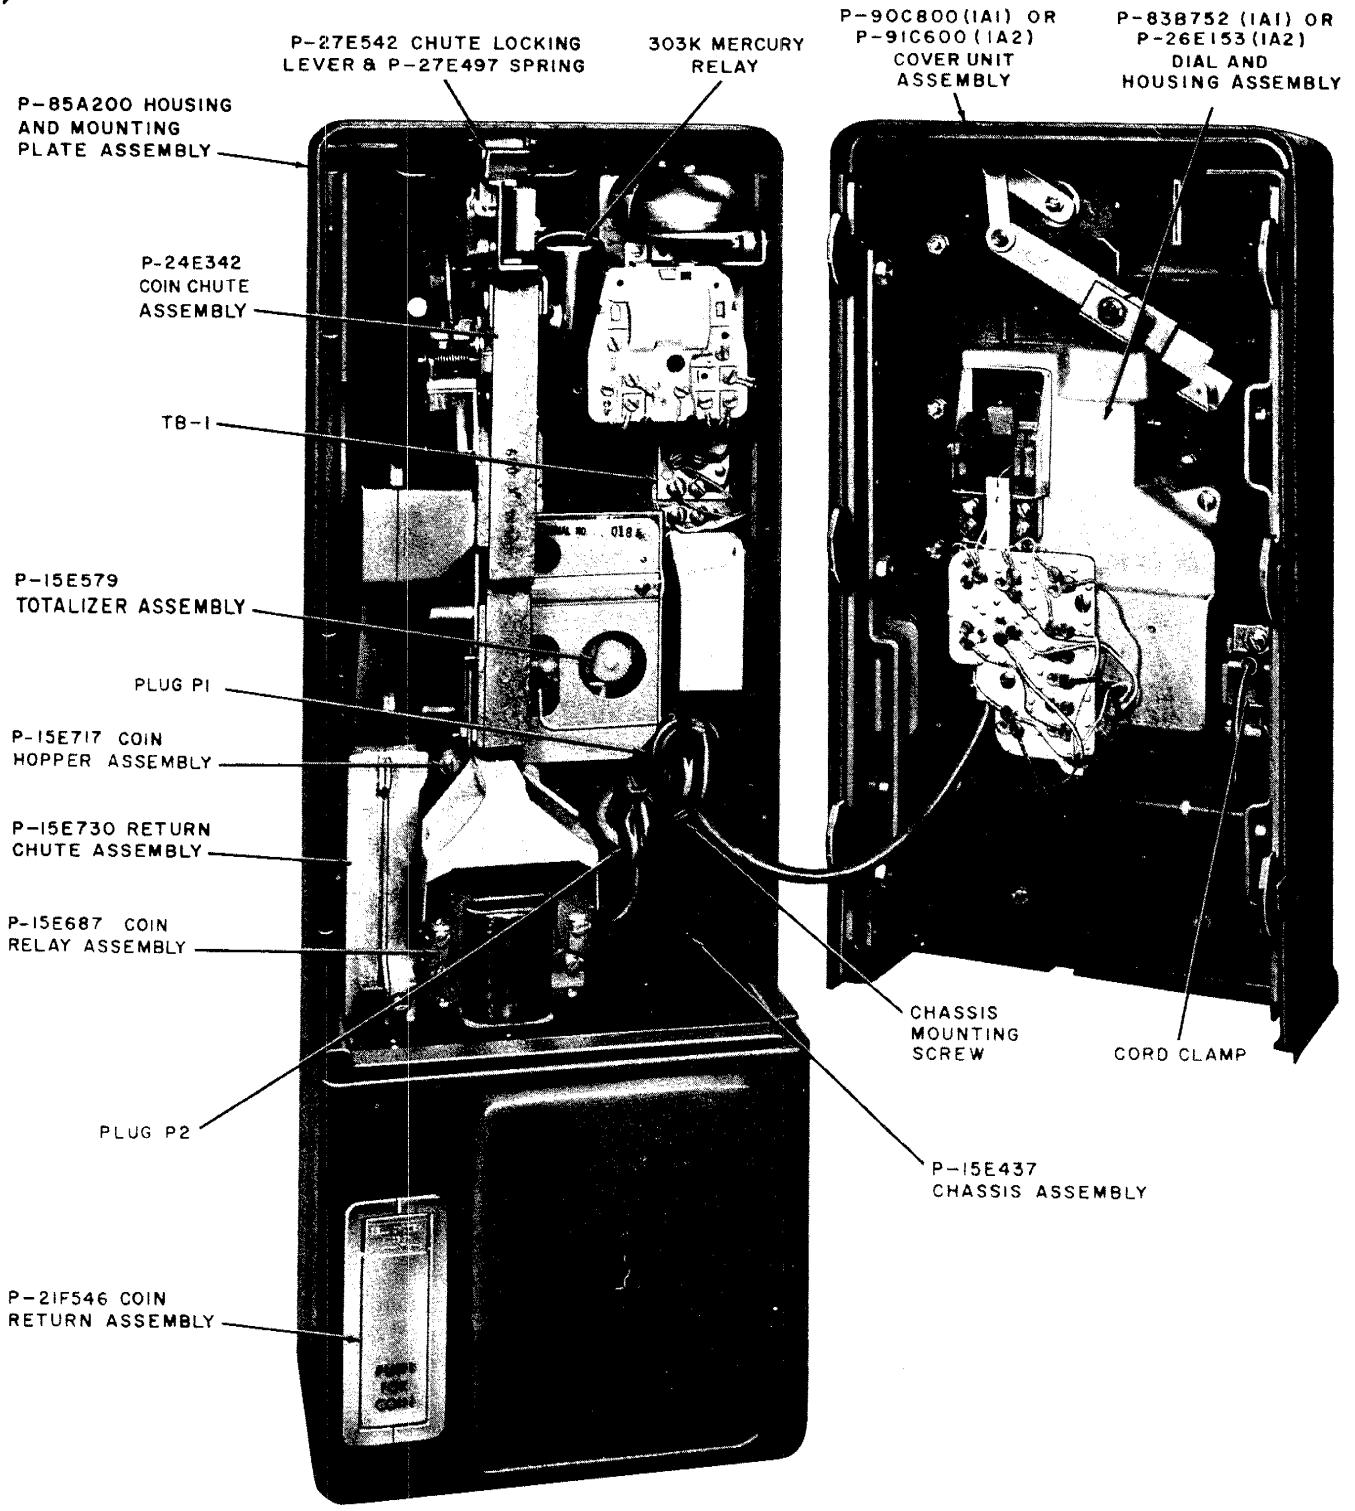
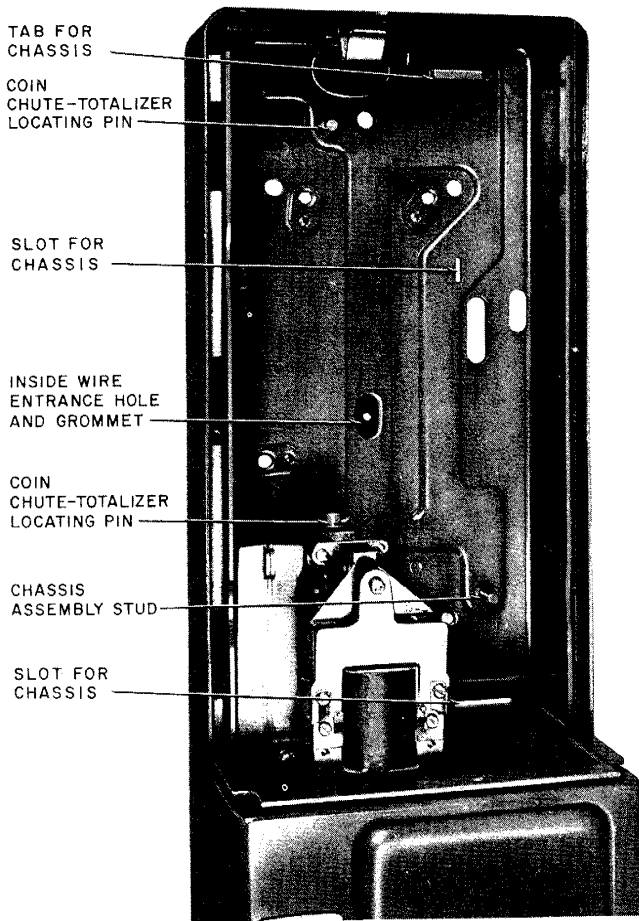

Fig. 7—Assembly of Parts (Typical)
Fig. 8—P-85A200 Housing and Mounting Plate Assembly
- (1) Unlock 29A lock.
- (2) Release locking mechanism with 719A tool by turning tool 1/8-turn counterclockwise. See Section 506-326-100 for illustration of 719A tool.
- (3) Slide cover forward about 3 inches to obtain access to plug P1.
- (4) Disconnect plug P1 (Fig. 7) by pulling straight out as cover is carefully lifted off.
- (1) Disconnect plug P2 (Fig. 7).
- (2) Release chute locking lever and spring.
- (3) Lift spring out of groove in coin chute.
- (4) Tilt top of coin chute forward and lift out.
- (1) Place assembly on pins located on rear of hopper assembly and back of housing (Fig. 8).
- (2) Place spring in groove on coin chute.
- (3) Lock spring in place by pushing chute locking lever down.
- (4) Reconnect totalizer plug P2 to J2.
- (1) Remove coin chute-totalizer assembly (4.03).
- (2) Disconnect black and yellow leads from coin relay and carefully pull leads through guide hole on coin hopper.
- (3) Loosen chassis mounting captive screw (Fig. 7).
- (4) Pull chassis assembly out at bottom and slide down to remove.
- (1) Slide chassis under tab (Fig. 8).
- (2) Seat chassis tabs in slots.
- (3) Tighten chassis mounting captive screw (Fig. 7).
- (4) Replace black and yellow leads on coin relay after threading through hole in hopper. Connect yellow lead to terminal G and black lead to terminal 3 of coin relay.